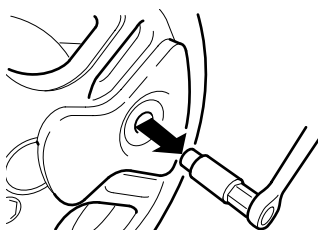

Fig. 7
- Remove the locking bolt socket key. (Fig 7)